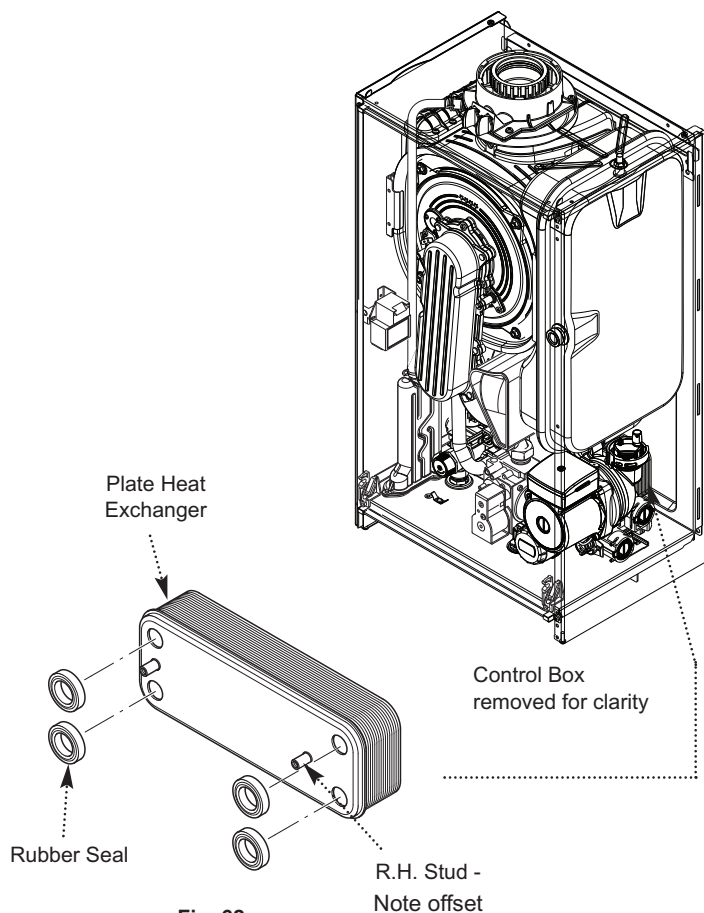

Fig. 62
### 10.3.16 Plate Heat Exchanger (Fig. 62 & 63)
7. When fitting the new heat exchanger note that the right hand location stud is offset towards the centre (Fig. 62).